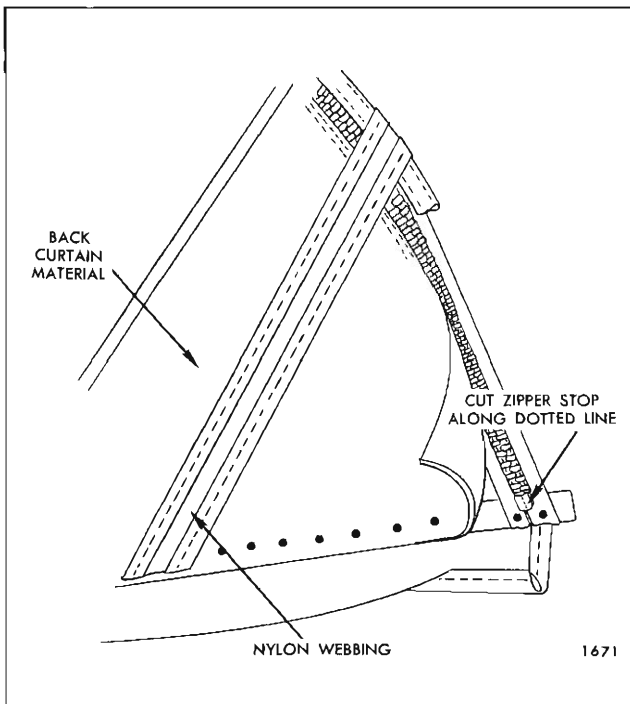

Fig. 2-I-49—Back Curtain Vinyl Replacement
13. Using chalk, or other suitable material, mark ends of rear and rear quarter trim sticks on vinyl surface of back curtain material (Fig. 2I50).
14. Using chalk or similar material, mark zipper tape at upper edge of vinyl (Fig. 2I51).